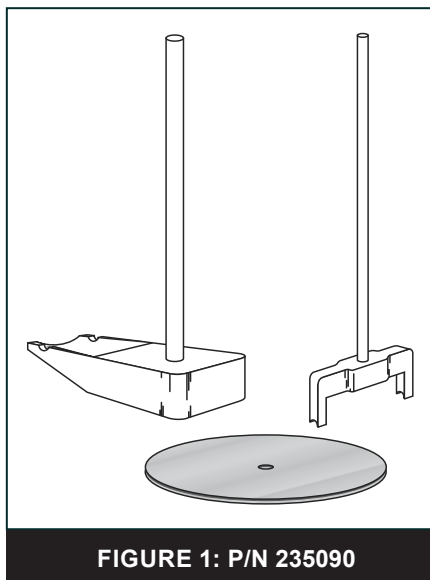

FIGURE 1: P/N 235090
4. With the extractor tool (**Figure 1: P/N 235090 - T-Valve Install & Removal Tool** - sold separately), remove each T-valve assembly from the valve base.